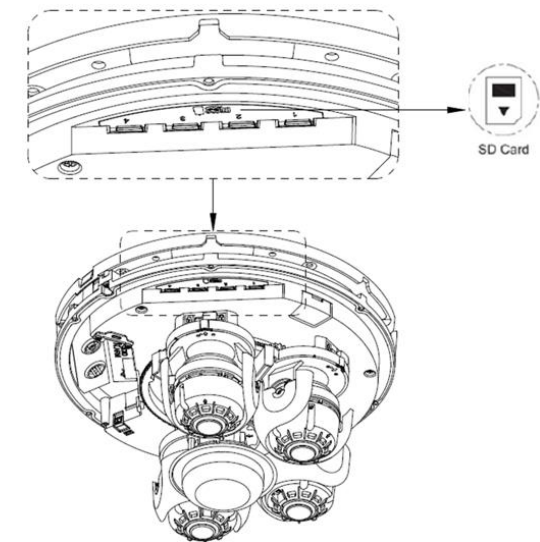

Figure 3
1. Disassemble the camera as per steps 1 to 2 in 'Disassembling the camera' procedure and carefully insert or remove the micro-SD card (Figure 3) into or from the camera.